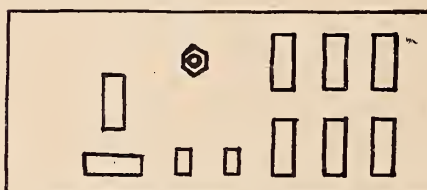
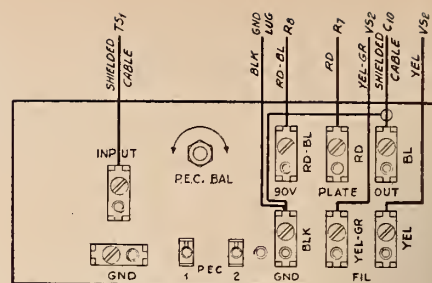

FIGURE 2
FIGURE 3
The shelf may, therefore, be turned over, and a layout, or sketch, made of the parts as they appear on the underside, indicating each one as nearly as possible in the place where it appears on the actual apparatus. Similar sketches may be made of the front of the connection panel, and of the back of that panel. Figure 2 is a layout of the front of the panel.
cating a socket is sufficient. Draftsmen sometimes elaborate, as in Figure 3; projectionists need not.
Figure 3 is the completed wiring drawing, representing two stages of work beyond Figure 2. Figure 2 having been completed, the next step normally would be to put in the necessary information. This is, along the top row: INPUT, P.E.C. BAL., 90 V., PLATE and OUT. Along the bottom row: GND., P.E.C. 1 and 2, GND. and FIL. The final step is to add the wires.
Such designations as those shown in Figure 3 may not always be readily visible on the apparatus. Sometimes they are present but obscured by dust and grime; in which case a little cleaning is required. If they have been omitted, it may be necessary to leave them out temporarily until the information can be obtained indirectly. For example, the ground terminal of Figure 3 could be identified as such (if necessary) by tracing its external connection; and often more easily by noting that it is bonded to chassis internally. Similarly, when information is not provided, various other external or internal circuits can be traced to obtain it.
When the necessary information has been added to Figure 2, the wires are drawn in, just as they appear in physical fact, and then, if they are color coded, their colors are noted on the diagram. Here again a little cleaning may be necessary, because if the equipment is old the wires may have collected enough dust to make their colors invisible. A bit of carbon tetrachloride on a rag will usually clear up that difficulty.
In the cases of Figures 2 and 3 there are at most four steps: (1) make Figure 2; (2) add the apparatus information; (3) add the wires, and (4) add the wire information. But Figure 2 consists only of terminals. In the case of most wiring diagrams one additional step is necessary—adding the terminals; that is, adding the prongs to the circles that indicate sockets; adding terminals to the circles or rectifiers that indicate condensers, and